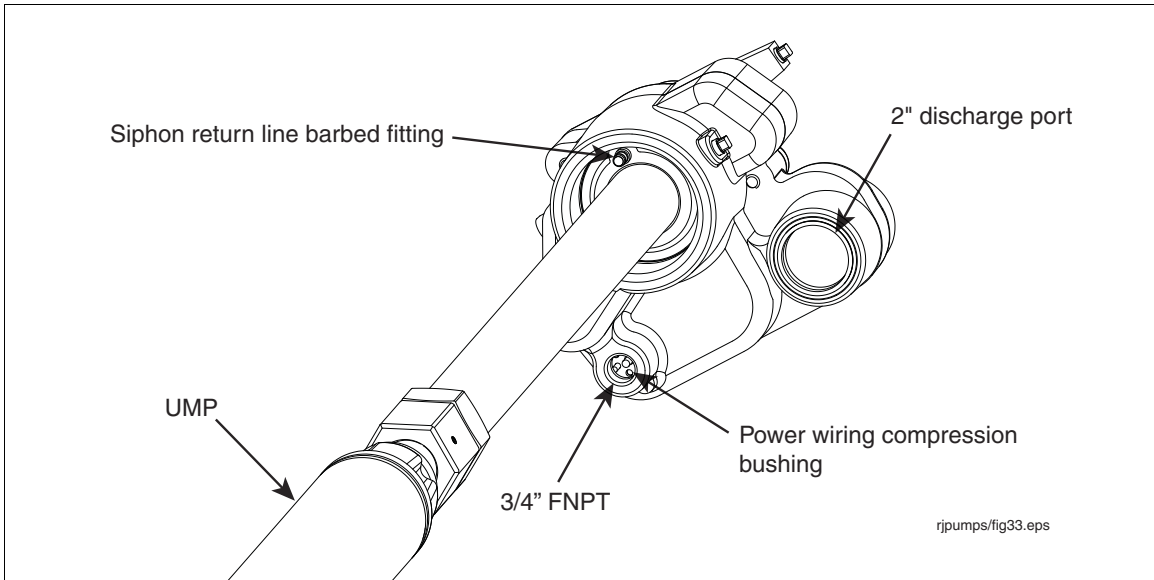

Figure 12. Locating return line fitting on packer
- Attach the siphon return line tubing to barbed fitting in the base of packer and secure with a clamp (see Figure 12).